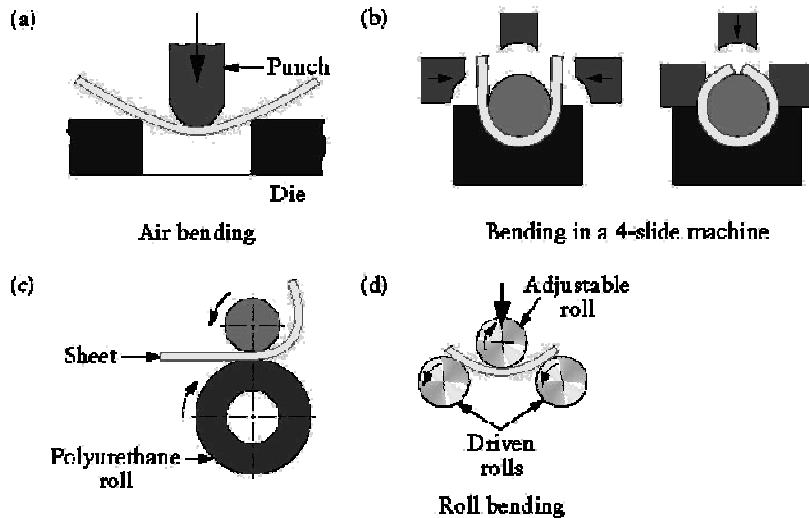

Fig.1
- **Bending:** forming process causes the sheet metal to undergo the desired shape change by bending without failure. Ref fig.1